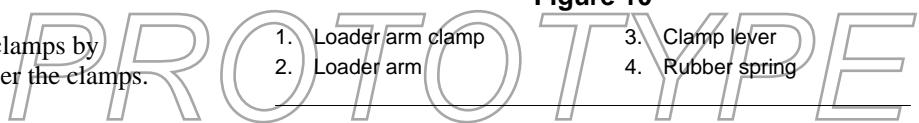

Figure 10
12. Swing the loader arm clamps over the loader arms and secure them by pulling the clamp levers down and back (Fig. 10).